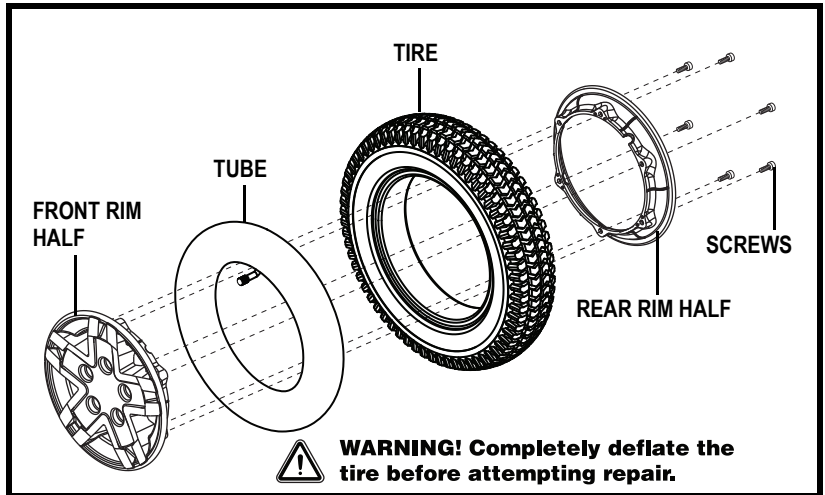

Figure 23. Quantum Q4 Drive Wheel Disassembled
6. Remove the screws and separate the front and rear rim. See figure 23.
10. Reinstall the five (5) lug nuts onto the wheel hub and tighten.